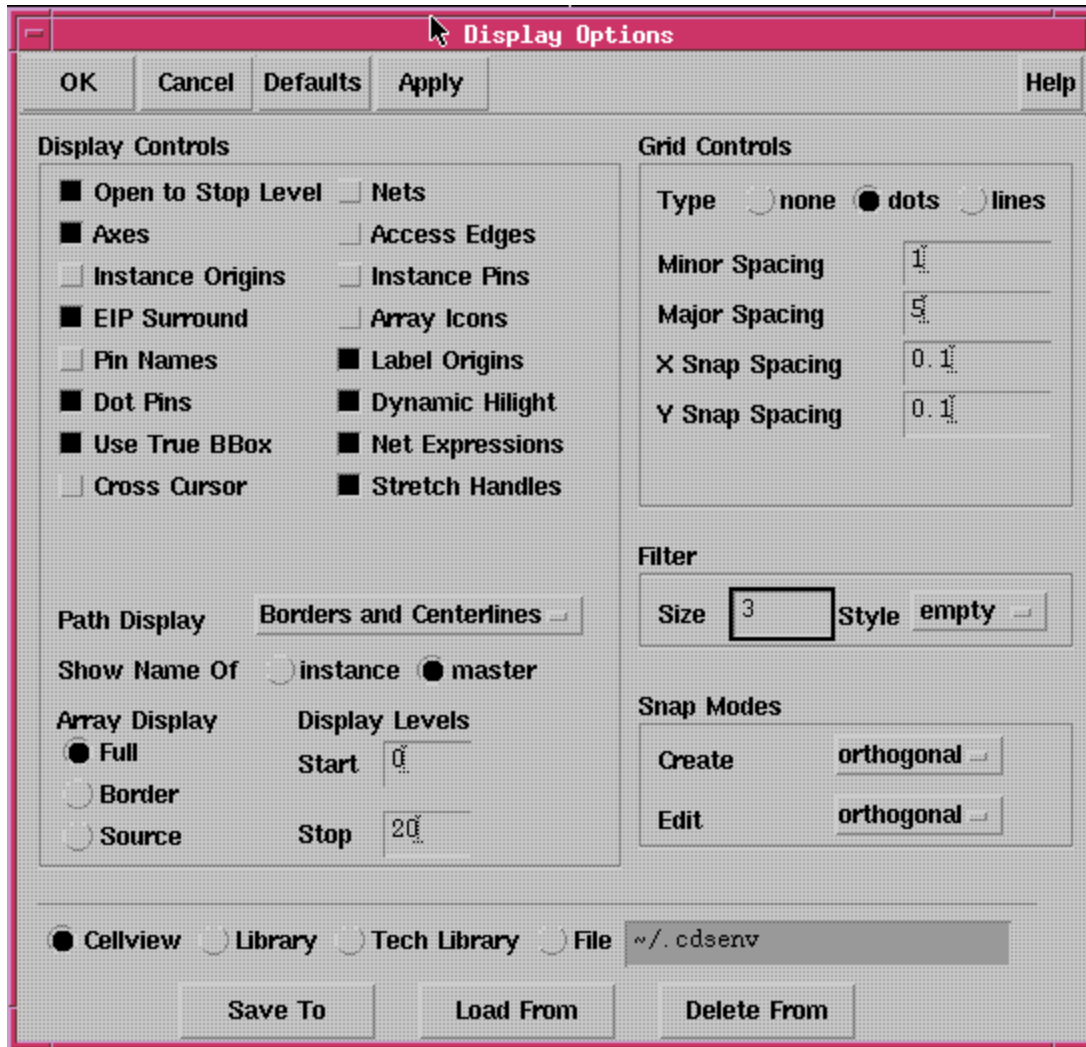

Fig. 3. Setting display options
- To set the display so that all layers will appear, in *Layout Editing* window, select **Options --> Display**. Set the options as Fig. 3 and click OK.